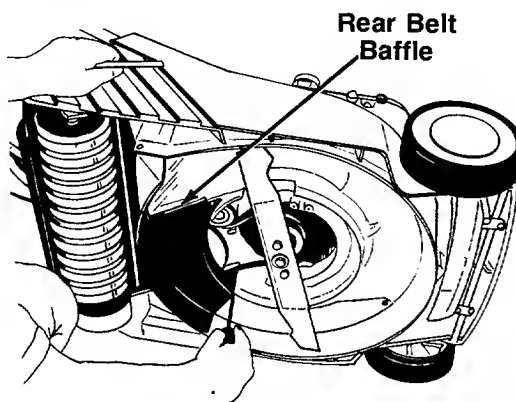

FIGURE 9.
4. Remove the rear belt baffle by removing five self-tapping screws. See figure 9.